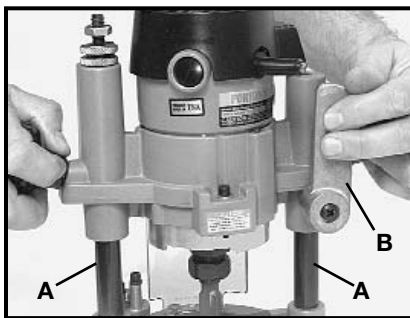

Fig. 9
DO NOT ALLOW WRENCHES TO CONTACT COLUMNS (A) Fig. 9, AS COLUMNS MAY BE DAMAGED, RESTRICTING PLUNGE ACTION.
3. Release plunge mechanism by pulling the locking lever (B) Fig. 9, to the left and lower plunge mechanism until the router bit just touches the work surface. Release lever and push to the right to lock mechanism in this position.